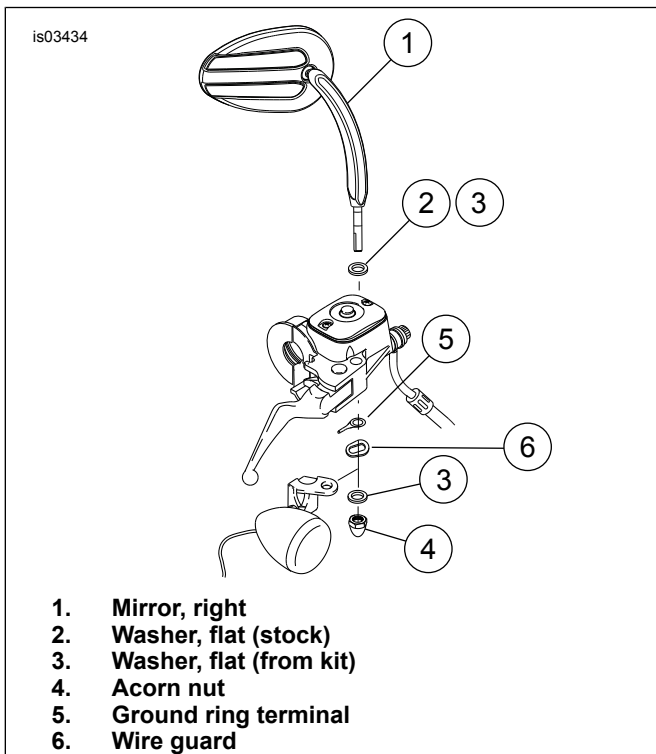

Figure 2. Install Right Lighted Mirror
- See Figure 2. Repeat previous step for the front brake hand control assembly. Discard star washer and mirror but save acorn nut.
- Install acorn nut (4) on mirror stem (1). Tighten to 10.8–16.3 N·m (8–12 ft-lbs). Do not over-tighten.
- See Figure 2. Repeat installation steps for front brake hand control assembly.